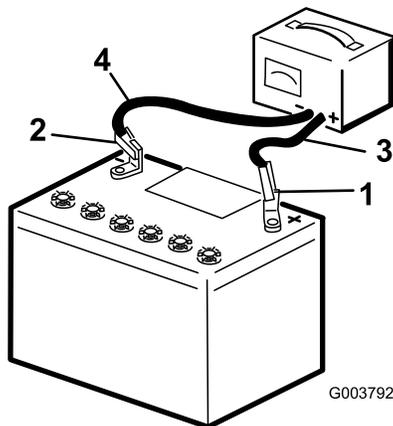

Figure 62
- Charge the battery for 4 to 8 hours at a rate of 3 to 4 A (Figure 62). Do not overcharge the battery.
- When the battery is fully charged, unplug the charger from the electrical outlet, then disconnect the charger leads from the battery posts (Figure 62).